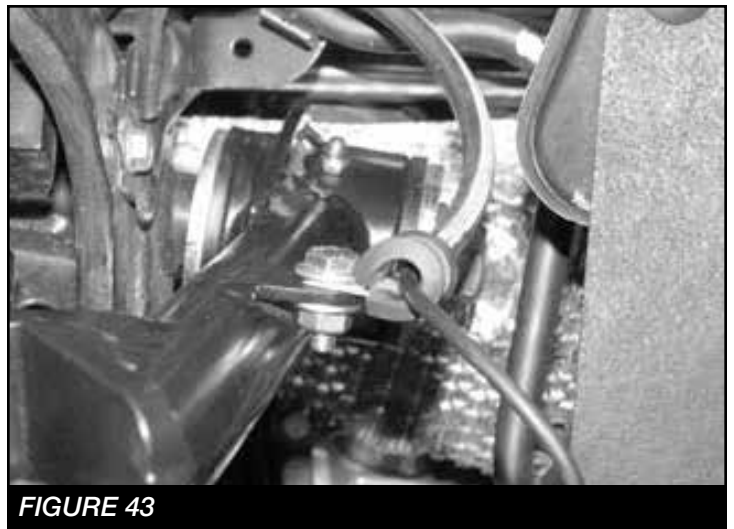

FIGURE 43
34. Locate the FTclamp, $\frac{1}{4}$ " -20 x $\frac{1}{2}$ " bolt, nut and washer. Attach the wheel speed sensor to the tab on the upper control arm with the clamp and hardware. Torque to 10 ft-lbs. **SEE FIGURES 43**